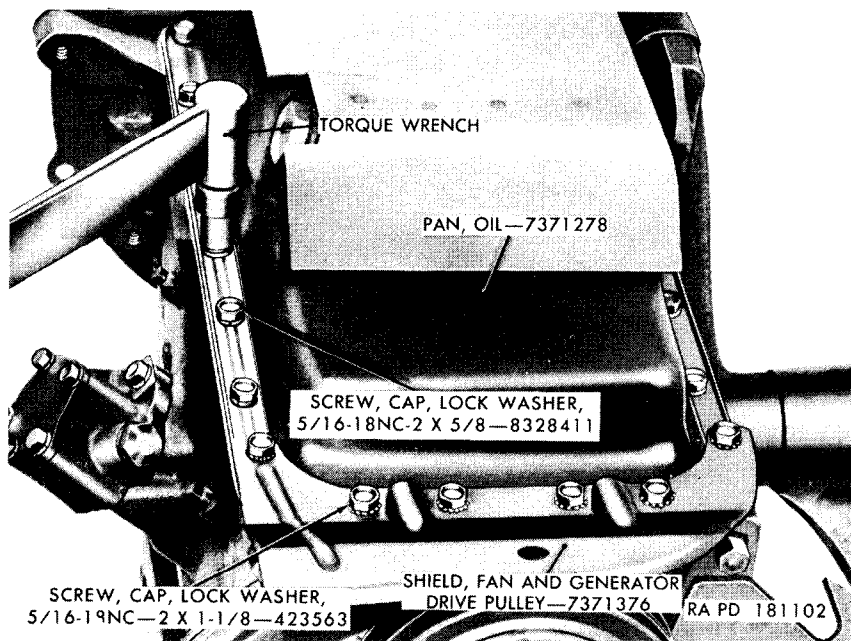

Figure 91. Installing oil pan and fan and generator drive pulley shield
e. Coat both sides of the oil pan gasket (fig. 91) with liquid type gasket cement. Loosely attach the oil pan and gasket to the bottom of the cylinder block with fourteen $\frac{5}{16}$ -18NC-2 x $\frac{5}{8}$ lock washer cap screws installed in the side and rear mounting holes. Do not install cap screws in the front six holes.
f. Center a fan and generator drive pulley shield spacer gasket (fig. 17) and a pulley shield spacer over each of the oil pan front mounting holes. Install the fan and generator drive pulley shield (fig. 91) on top of the spacers with the squared side of the shield on the oil pump side of the engine. Secure the shield in place with six $\frac{5}{16}$ -18NC-2 x $1\frac{1}{8}$ lock washer cap screws. Tighten the pulley shield cap screws and the oil pan cap screws to 12-17 pound feet torque.